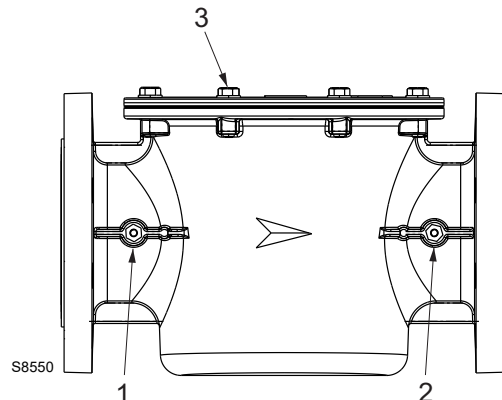

Fig. 13
Replace the filtering element if the Δp between the pressure test points 1) and 2)(Fig. 13) is greater than 10 mbar.
- loosen the screws of the cover 3)(Fig. 13) and carefully clean the filter compartment